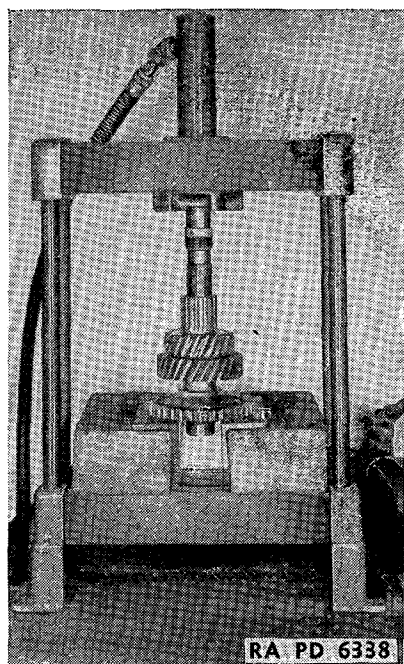

FIGURE 145.—Pressing on transmission countershaft power take-off gear.
(2) Replace power take-off gear—brass drift, hammer, press. Replace Woodruff key. Set up in press and press gear on shaft (fig. 145).